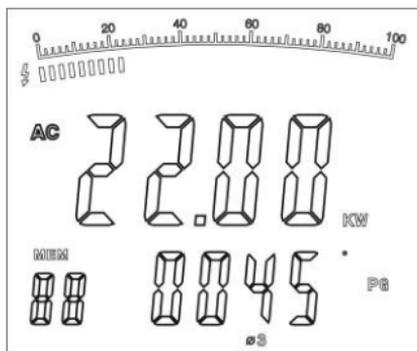

Figure 11
3. After record the current power measurement value of the second phase, then press **SEL** again to choose $\text{Ø}3$, The double display shows the value of active power KW and PG of the third phase. as figure 11.